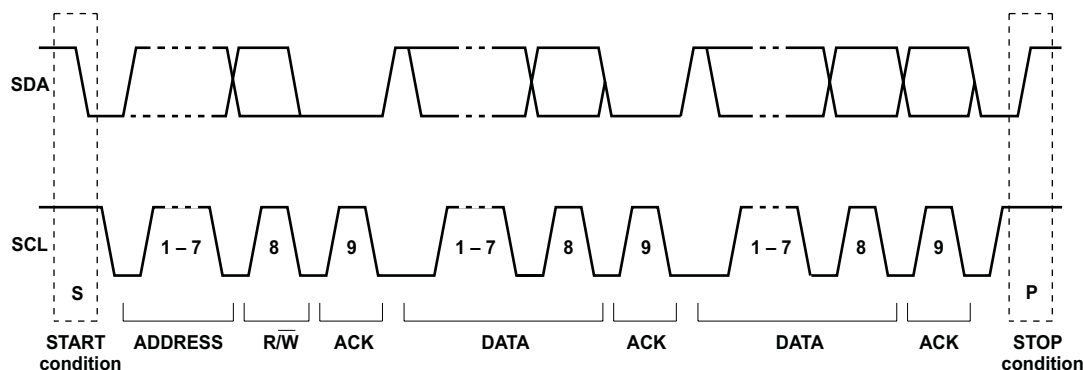

Figure 22. I²C Address and Data Cycles
- The master generates further SCL cycles to either transmit data to the slave (R/W bit 0) or receive data from the slave (R/W bit 1). In either case, the receiver needs to acknowledge the data sent by the transmitter. So an acknowledge signal can either be generated by the master or by the slave, depending on which one is the receiver. The 9-bit valid data sequences consisting of 8-bit data and 1-bit acknowledge can continue as long as necessary (see Figure 22).